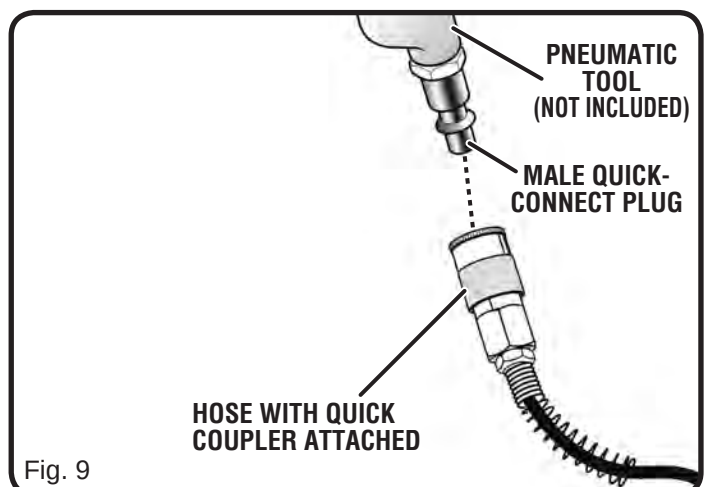

Fig. 9
- Connect the air powered tools to the air hose by inserting the male quick-connect plug to the quick-coupler at the end of the hose (see Fig. 9).
- Turn the ON/OFF switch to **ON (I)** position.